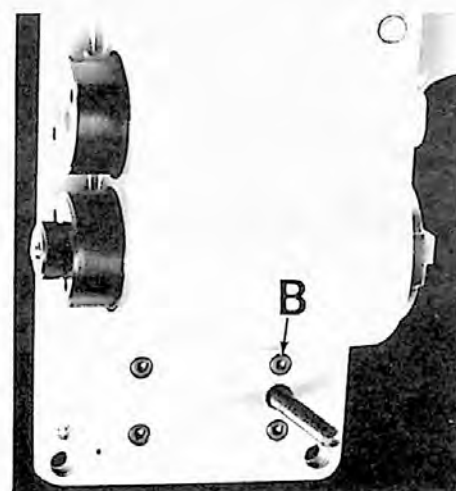

Figure 53 — Bolts for Switch Mount
- Remove four screws "B", Figure 53, and remove mount for micro switches.
- (b) Replace mount and four screws "B", Figure 53.